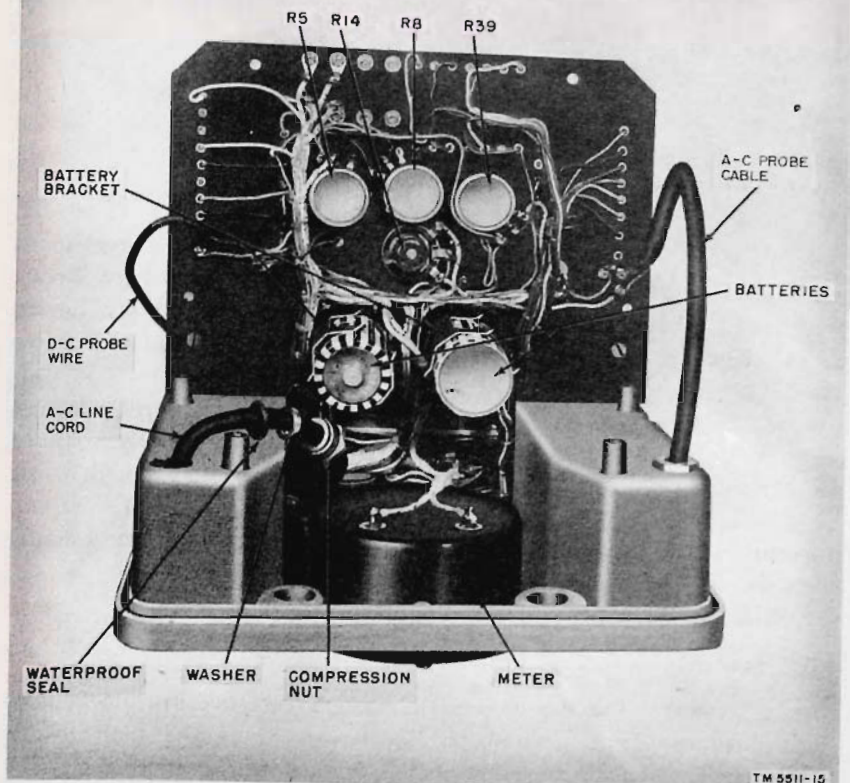

Figure 15. Electronic Multimeter TS-505/U, top view, showing under side of terminal board.
b. In the event that the terminal board is broken, capacitors C8 and C9, resistors R5, R8, R14, and R39, and the battery holders should be salvaged if they are in good condition (fig. 15). In general, the fixed resistors mounted on the board are not worth salvaging because the leads would be too short. However, salvage the precision resistors R4 and R24 through R38 even though the leads are short so that some precision resistors are readily available for replacement.
e. The front and rear covers may be placed in stock if they are in good condition. Note that the cables in the unit have enough slack (fig. 15) so that they may be cut close to the soldered end and re-used.